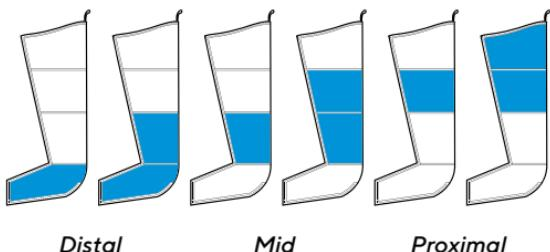

Figure 2 - ISO Cycle Mode
- Until both chambers reach the set pressure and deflate at the same time, the cycle will start again after a short pause (see Figure 2).